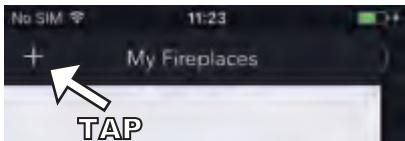
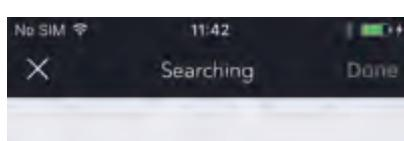

Fig. 2 Tap the "+"button (Top left)
Fig. 3 Searching Fireplace
4. Press "Add" (Fig. 2) button and start searching (Fig. 3) the Fireplace nearby